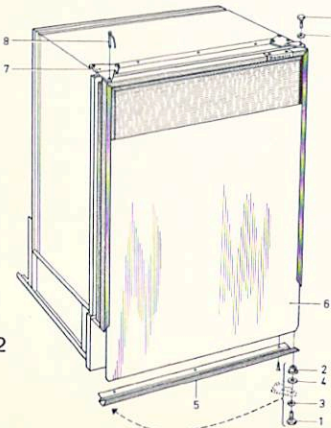

Fig. 2
unscrew and remove the hinge bolts (1), Fig. 2. Transfer the lower nylon bushing (2) and the washers (3) and (4) (be sure to place them in the correct order) to the opposite end of the door frame. Insert the bolts through the opposite hinges (7) and screw in place. The small hinge pin (8) with its chains is then transferred to the opposite top hinge to be used for securing the door during traveling.
unscrew the top hinge bolt (1), Fig. 2. Pull out the bolt and lift off the door. Remove the screws holding the bottom member of the aluminium door frame (5). Pull out the outer door panel (6), replace panel, reassemble and refit the door.